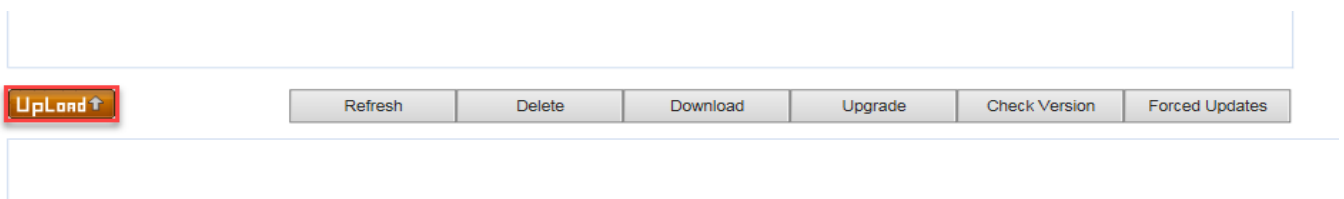

Figure 9-3 Software Upgrade 2
- On the software upgrade page, as shown in Figure 9-3, click the **Upload** button to upload the NPRU or EU-E software package file.